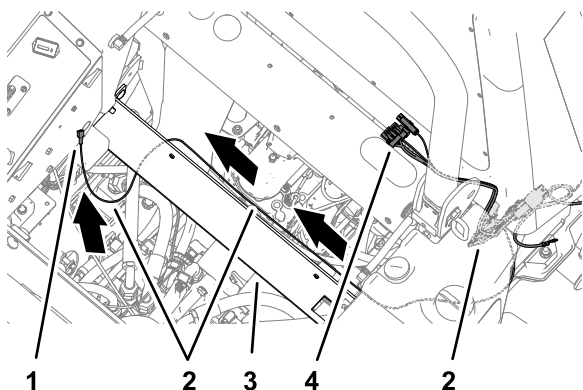

Figure 8
2. Route the power harness branch with the tab-terminal connector along the cross channel and toward the access panel for the control panel cover (Figure 8).